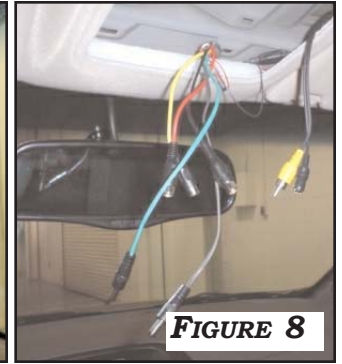

FIGURE 8
2. ROUTE MIRROR HARNESS UP WINDSHIELD AND BEHIND THE HEADLINER TO CONSOLE OPENING. ROUTE THE END OF THE CAMERA EXTENSION HARNESS MARKED "TO MIRROR" WITH THE MALE CONNECTORS UP THE CENTER OF THE WINDSHIELD AND BEHIND HEADLINER TO THE CONSOLE OPENING. **FIGURE 8**